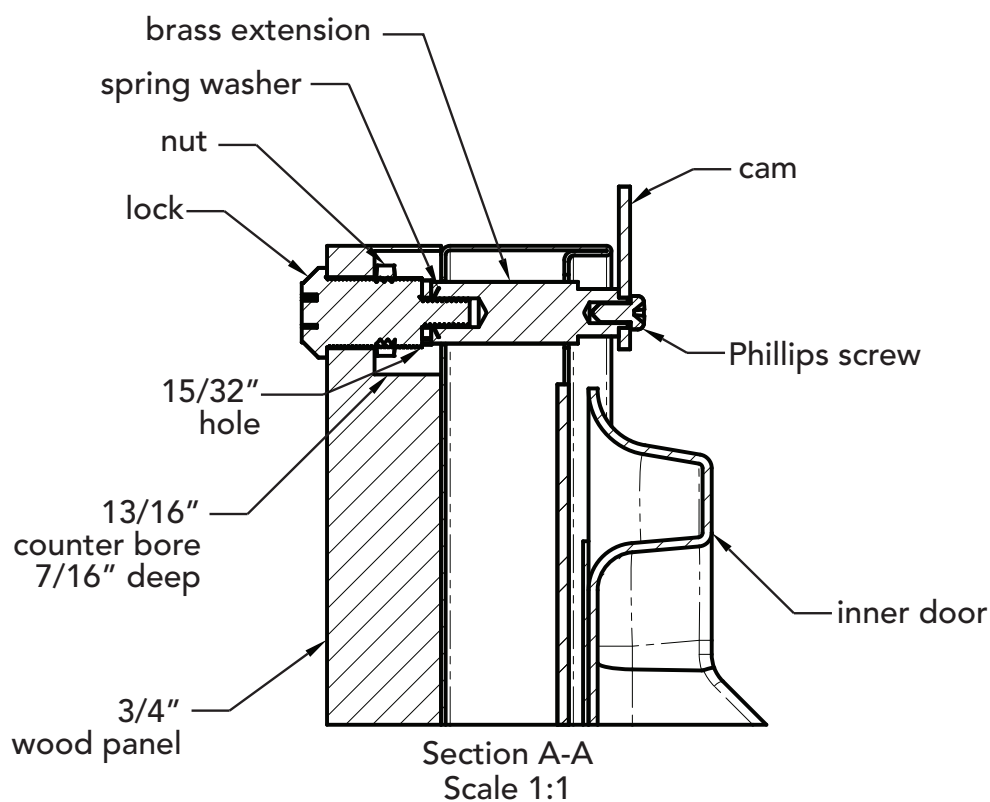

Figure 3
Locate and mark with a pencil the location of the lock hole on the overlay panel, this is the hole in the top corner of the handle side of the door. Remove the clamp and remove the overlay panel from the door. On the backside of the panel where you marked the lock location drill a  $13/16"$  (20.5 mm) diameter counter bore  $7/16"$  (11.0 mm) deep into the overlay panel. Drill a  $15/32"$  (12.0 mm) diameter hole through the overlay panel centered on the counterbore being careful not to splinter the wood on the face side of the panel. (See Figure 3).
Two (2) lock extensions are supplied with the lock. Use the longer extension for a  $3/4"$  thick overlay panel and the shorter one for a  $5/8"$  thick panel. Assemble the lock extension, cam stop washer, spring washer, and set screw to the lock as shown in Figure 3 and 4.